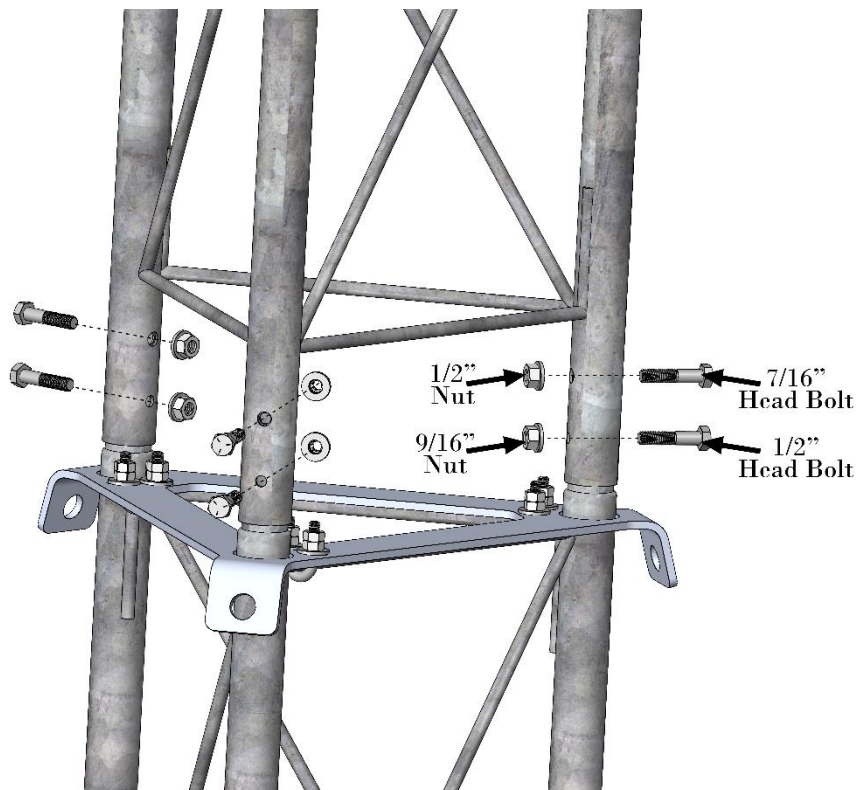

Figure 41 40' Kuva Tower bolt locations
7. Secure the (3) tower legs sections using (3) 7/16" head bolt and (3) 1/2" Nuts. Then secure using (3) 1/2" head bolt and (3) 9/16" nuts as per Figure 41.